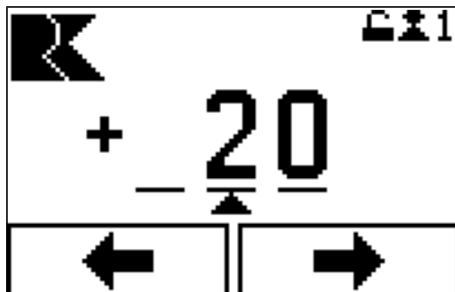

Fig. 46: Entering a value
3. → Set the relative target position (stroke of the drive Fig. 46).